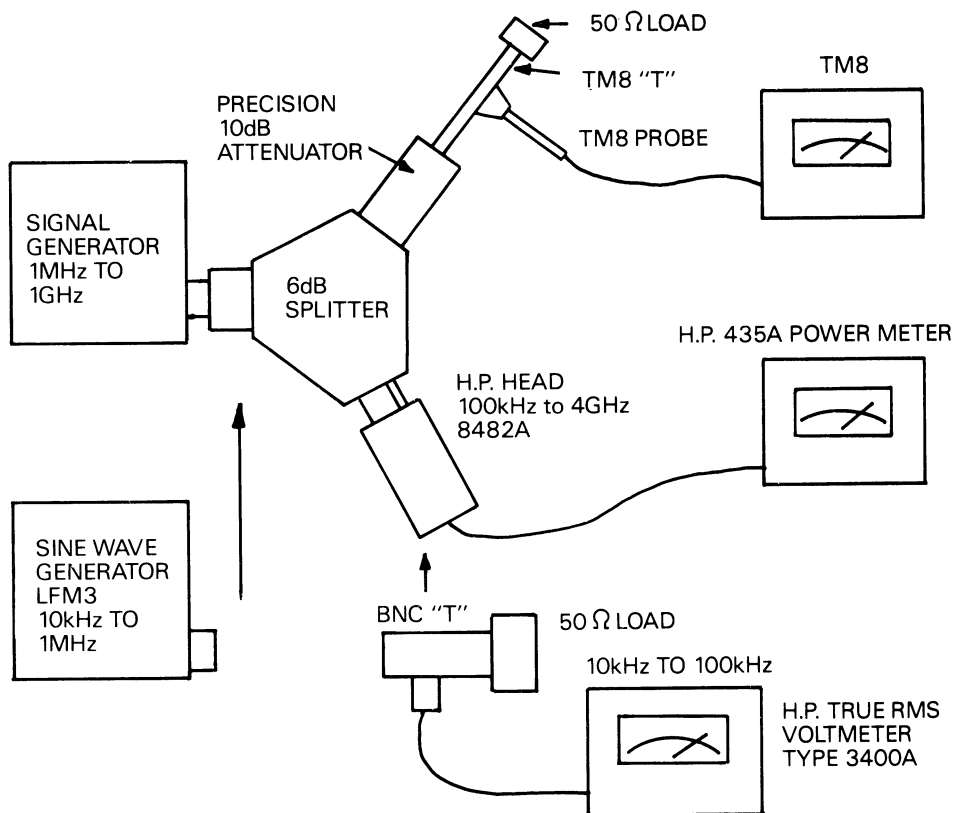

Fig 3
- a) Connect the equipment of Fig. 3 (page 13). Set the generator to 100MHz, and level +2dBm on the power meter. Select the 100mV range on the TM8 with r.m.s. mode. Adjust P5 (on the I.F. Amplifier C/B) for a meter reading of 90% FSD.